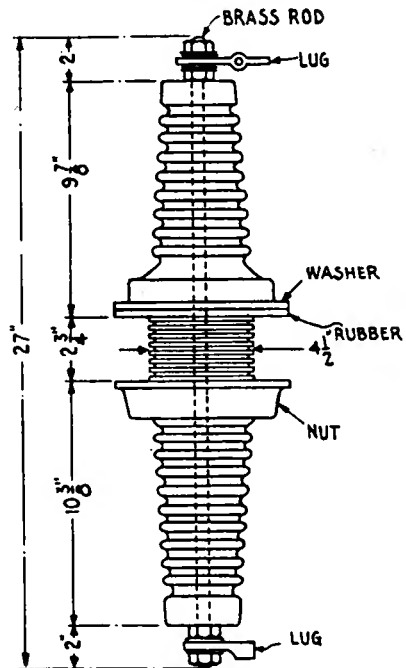

Figure 116
(2) Figure 116. To show the general construction of a special Electrose moulded insulator used by the American Marconi Company.
The deck insulator shown in figure 116 is made of Electrose and has a heavy brass rod moulded securely into it which terminates at either end in a connecting lug. The outside of the insulator is threaded and after it is inserted in a hole cut in the deck a water-tight joint is made by taking up the collar R under which are placed rubber gaskets.